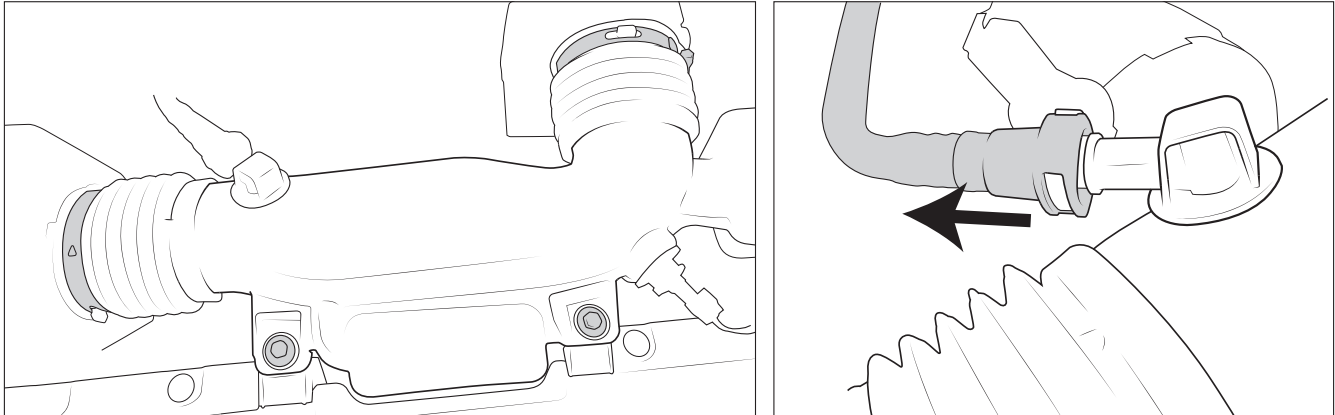

Figure 5
- A. Loosen the clamp on the engine intake hose at throttle body and air box. Remove crankcase breather by squeezing grey fitting at air inlet and pulling rearward. Wiring connection does not need to be removed. Use a 10mm wrench or socket to remove two bolts holding intake hose to radiator support and SAVE. Pull intake hose off and set on radiator cover out of the way of the airbox (fig. 5).